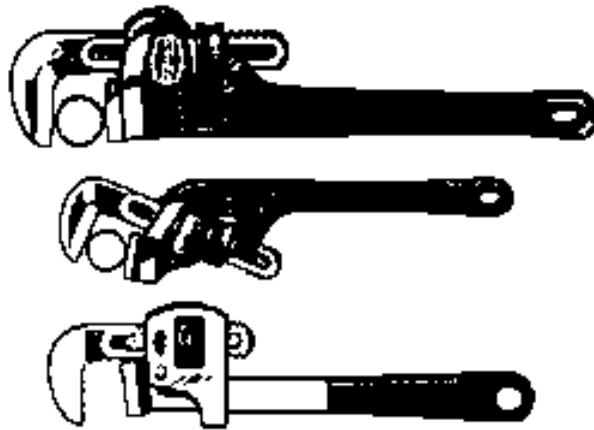

Figure 10, Pipe Wrenches
- **Pipe Wrench.** Pipe wrenches range in size from 6 to 60 inches. The offset wrench may be as long as 36 inches. (See Figure. 10). Pipe wrenches are used for turning pipe, round rod, and smooth fittings that do not offer a gripping surface for other types of wrenches; however, the bit of the jaws mars the work. Pipe wrenches should not be used on nuts or bolts.